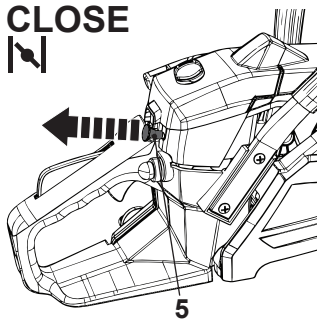

Fig. 21a
1. By pulling out the choke lever (5) fully (Fig. 21a), the choke is now at CLOSE position, and the throttle is at fast tickover.